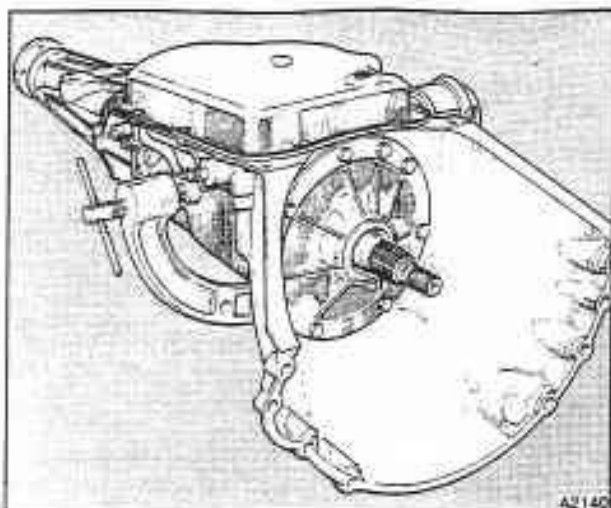

Fig. T7-3 Transmission in holding fixture
29. Fit the transmission into the holding fixture RH 7955 as shown in figure T7-3.